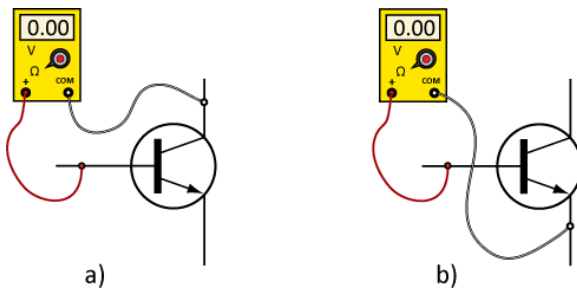

Fig. E5-1
1. With the positive probe of the ohmmeter connected to the base of the NPN transistors as shown in Fig. E5-1, what will be the ohmmeter readings shown on the two meters?